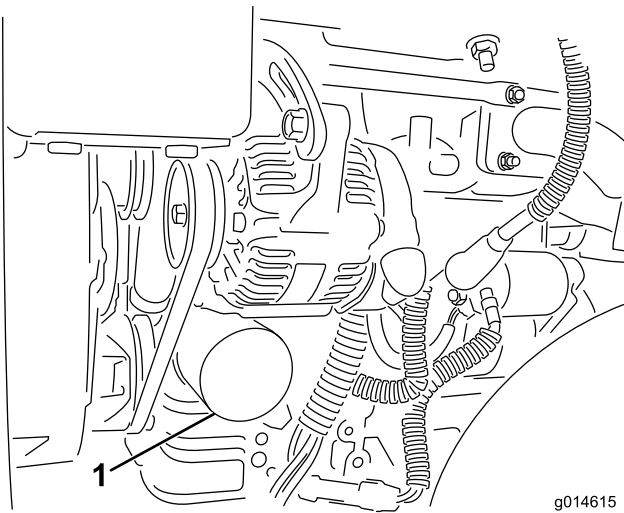

Figure 44
2. Remove the oil filter (Figure 44). Apply a light coat of clean oil to the new filter gasket.